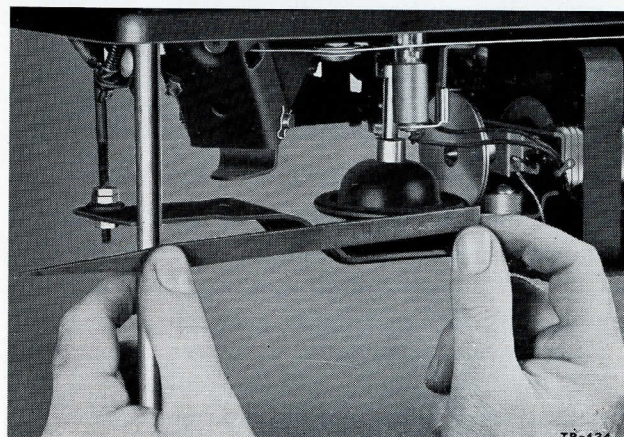

FIGURE 16. DRESSING BELL-DRIVE TIRE
29. Connect the power cord, turn the operating switch to MANUAL and test the trueness of the rubber tire, on the bell drive, with a pencil, or other smooth object. If irregularities are present, hold a sharp file lightly against the rubber tire and dress it just enough to remove any flat spots or bumps, as shown in figure 16.